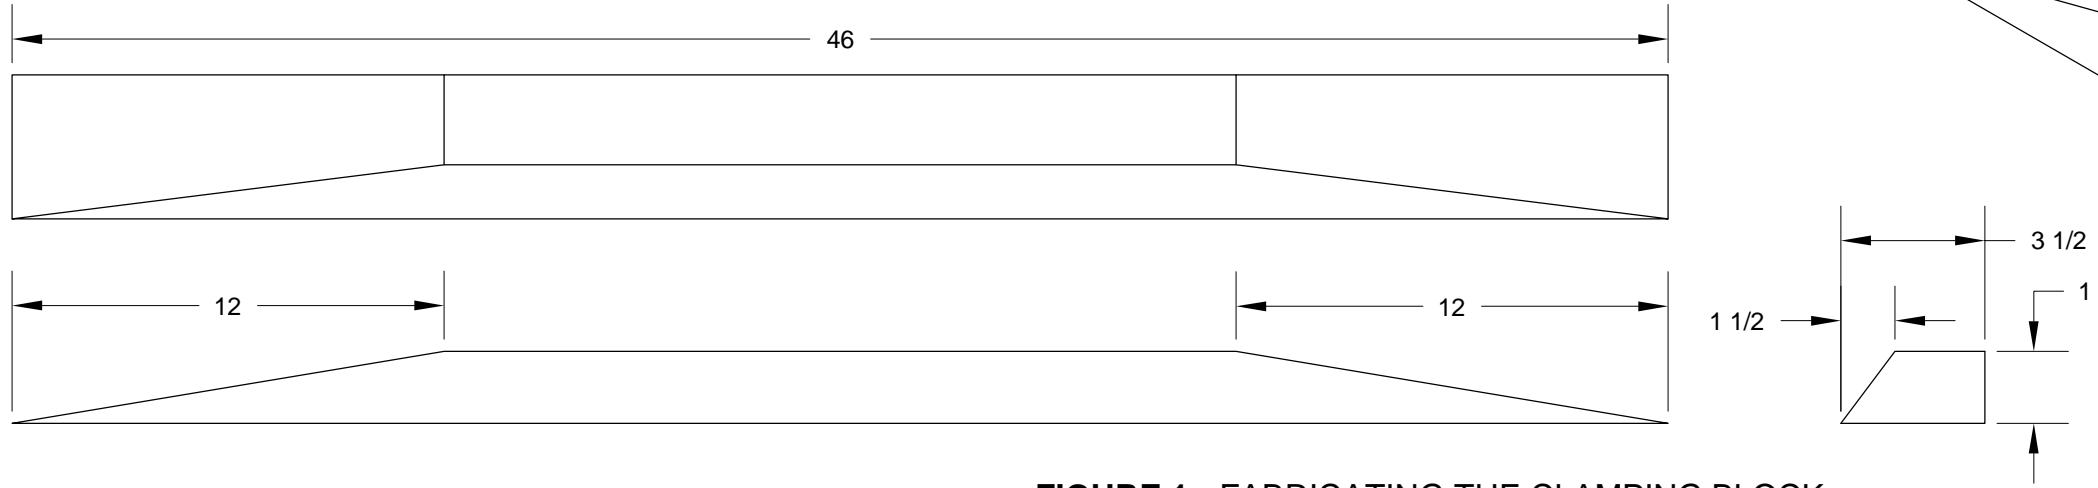

FIGURE 1: FABRICATING THE CLAMPING BLOCK
Step 1: Make a Clamping Block from hardwood or tightly grained equivalent per the dimensions given in the three view in Figure 1.
Step 3: Cleco the #40 hole in the F-1070A Roll Construction Angle to the alignment hole (called out in Figure 3) in the F-1070-R Mid Side Skin. With the roll construction angle parallel to the bottom edge (indicated in Figure 3) of the mid side skin, match-drill #40 all of the holes along the bottom edge of the mid side skin into the roll construction angle. Separate the two parts. Cleco the original #40 hole in the F-1070A Roll Construction Angle to the #40 hole in the F-1070B Roll Construction Angle, and clamp the remaining portions together (see Page 29-5, Figure 1 for their orientation). Match-Drill #40 all of the holes in the F-1070A Roll Construction Angle into the F-1070B Roll Construction Angle. Separate the two parts and set them aside.